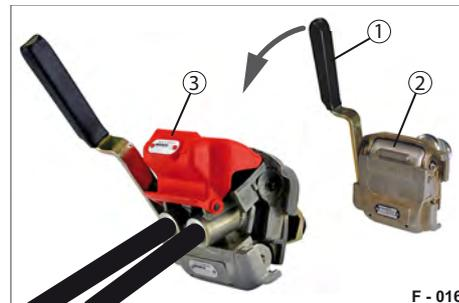

Fig. 22 Duo-Matic, coupled
- ▶ Push the handle (Fig. 22/1) of the Duo-Matic quick-release coupling socket downwards and slide the Duo-Matic coupling head (Fig. 22/3) under the opened protective cover.